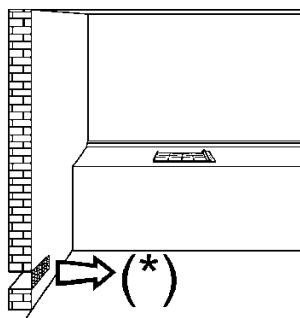
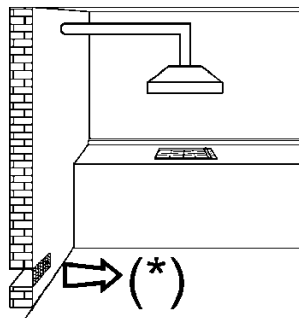
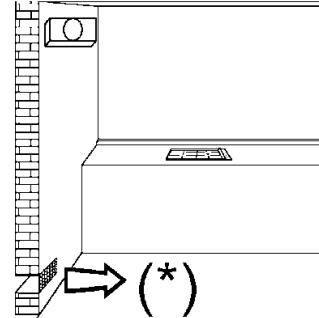

FIG. 3
FIG. 4
FIG. 5
- **use of a gas cooking appliance produces heat and moisture in the room in which it is installed. The room must therefore be well ventilated by keeping the natural air vents clear (see fig. 3) and by activating the mechanical aeration device (suction hood or electric fan fig. 4 and fig. 5).**
It is essential to ensure that the room in which the appliance is installed is permanently ventilated in order to allow the appliance itself to operate correctly. The necessary amount of air is that required for regular gas combustion and ventilation of the relative room, the volume of which must not be less than 20 m³. Air must naturally flow through permanent openings in the walls of the room in question. These openings must vent the fumes outdoors and their section must be at least 100 cm² (see fig. 3). Construction of the openings must ensure that the openings themselves may never be blocked. Indirect ventilation by air drawn from an adjacent room is also permitted, in strict compliance with the provisions in force.
Gas cooking appliances must always dispose of their combustion fumes through hoods. These must be connected to flues, chimneys or straight outside. If it is not possible to install a hood, an electric fan can be installed on a window or on a wall facing outside (see fig. 4). This must be activated at the same time as the appliance (see fig. 5), so long as the specifications in the provisions in force are strictly complied with.